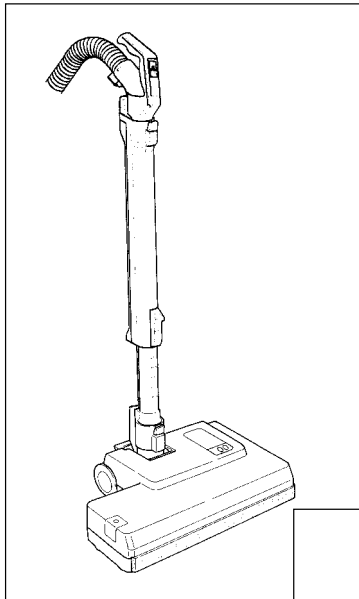
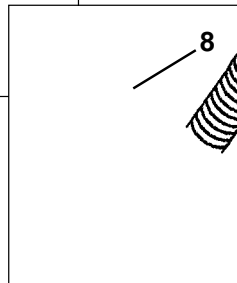
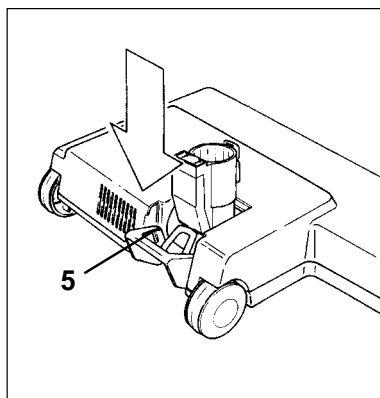

Figure 1
Figure 2
Figure 3
Starting The Machine - Figures 1 & 2
A. Before turning on your canister, make sure that the vacuum handle is in its upright locked position (figure 1).
1. With the canister main power switch in the OFF position, and the power control slider on the handle (#8, figure 2) in the OFF position, pull the power cord out from the base of the canister (see canister owner's manual). The power cord should be unwound from the cable reel at least two thirds of its length.
4. Slide the Power Control Slider (#8, figure 2) to the ON position (the slider will "click" when it is pushed out of the OFF position). It will then slide freely between 0 suction and MAX suction. Set the slider to the suction desired. Release the foot pedal (#5, figure 3).
#8, Figure 2
Operating The Machine - Figure 3
B. When the power head is switched on with the handle in the upright locked position (see figure 1 above), the brush roller will not spin. To release the power head from the upright locked position, press down on the foot pedal (#5, figure 3) and lower the handle into the normal operating position. The brush roller will then start spinning and the green light on the power head will illuminate.
When the canister's main power switch is in the ON position, you may turn the power head off and on with the power control slider (#8, figure 2). To turn the power head off using the power control slider, pull the slider to 0 suction, then continue pulling the slider up until it "clicks" into the OFF position.